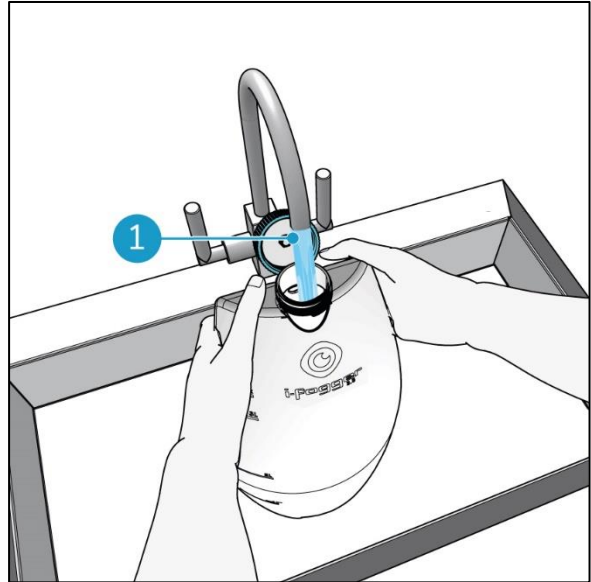

Figure 18
3. Fill the disinfectant solution tank with tap water (Figure 18, pos 2).
4. Carefully shake the disinfectant solution tank and dispose of the waste water properly (Figure 18, pos 1).